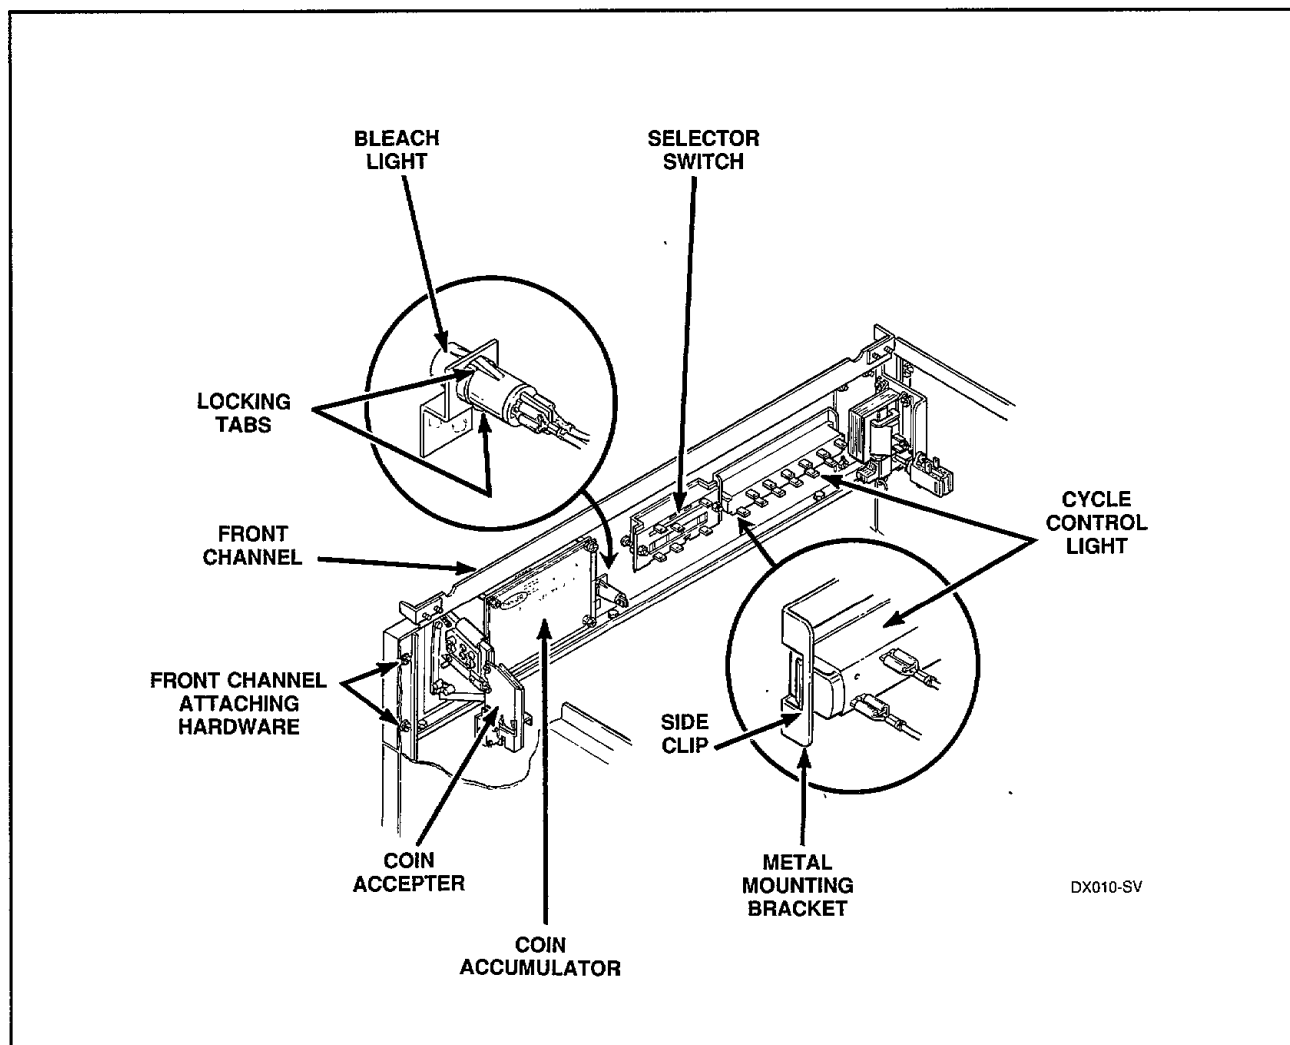

Figure 14
- f. Remove two nuts holding selector switch to backside of front channel, *Figure 14*.
- e. Using number 93501 Torx Drive Tool, remove the four Torx screws, lockwashers and nuts holding coin acceptor to front channel, *Figure 14*.
- e. Remove nuts holding plastic shield to backside of coin accumulator and remove shield, *Figure 14*. Then remove nuts holding coin accumulator to backside of front channel, *Figure 14*.
- e. Release side clips on metal mounting bracket and remove light, *Figure 14*.
- f. Squeeze locking tabs in on light housing and remove light from backside of front channel, *Figure 14*.